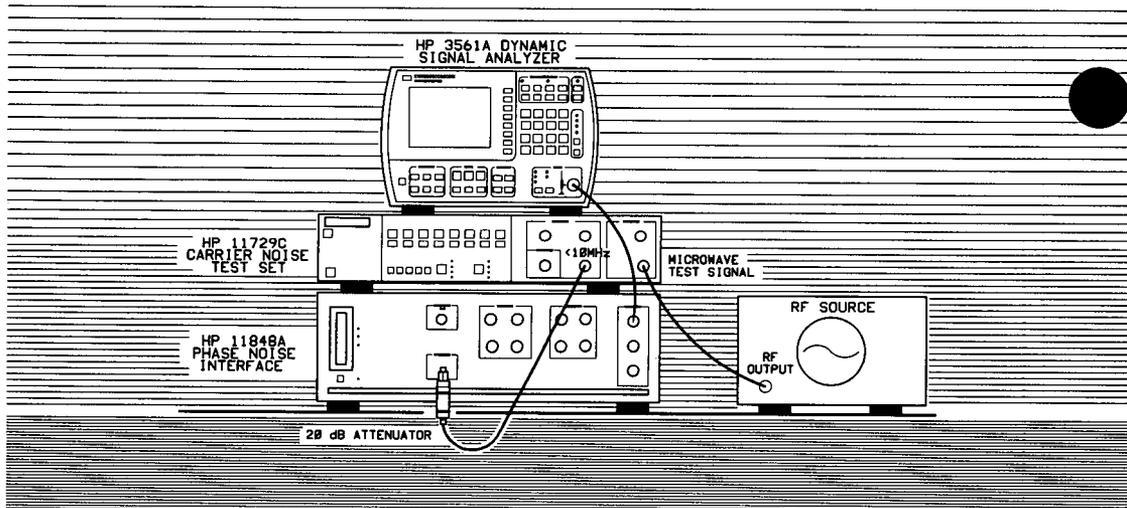

Figure 3-28. Setup diagram for AM Noise Measurement Example.
3. **When the Connect Diagram appears on the HP 3048A's display, connect the signal paths as shown in Figure 3-28.**